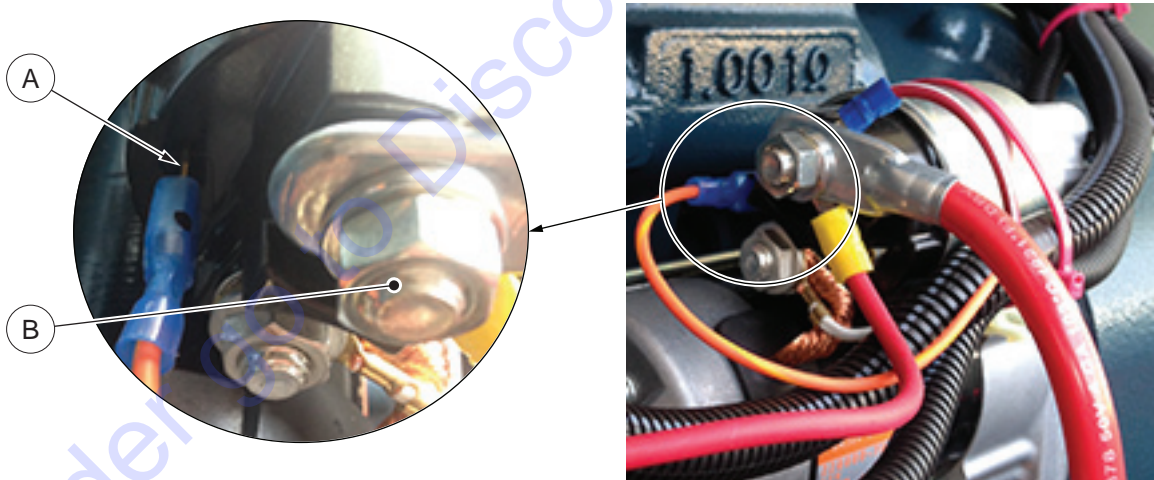

Figure 32 - Connect Starter Wires
- i. See Figure 32. Attach blue and yellow ring terminals to main starter stud.